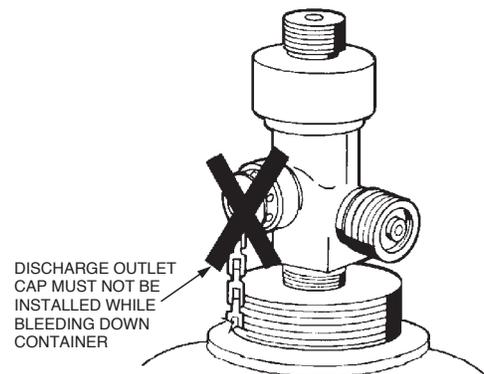

FIGURE 8-1
- a. Make certain discharge cap IS NOT on valve outlet. See Figure 8-1.